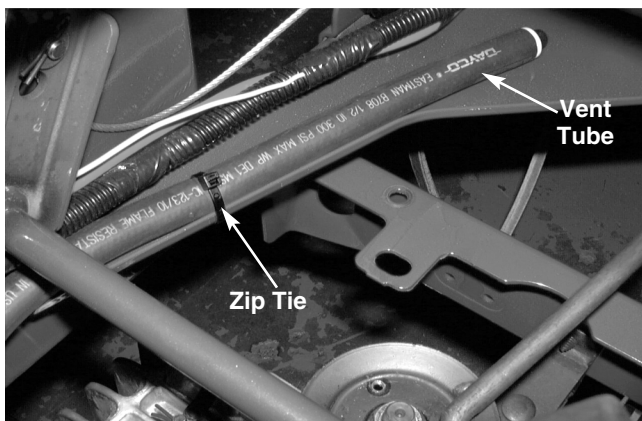

FIGURE 6.
21. Snip the zip tie that secures the hydrostatic vent tube to the frame. See figure 6.
NOTE: Make certain the hydrostatic vent tube is zip tied back into place during reinstallation. See figure 6.